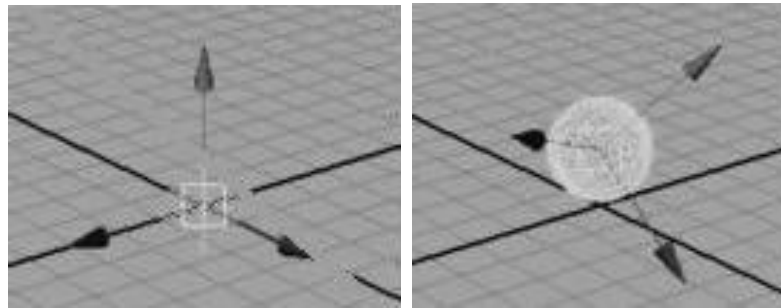

Figure 4.9 - World Space (Left) and Object Space (Right)
3D positions and transformations exist within coordinate systems called spaces. **World space** is the coordinate system for the entire scene. Its origin is at the center of the scene. Figure 4.9 shows the world space axes.
**Object space** is the coordinate system from an object's point of view. The origin of object space is at the object's pivot point, and its axes are rotated with the object, as shown in Figure 4.9.